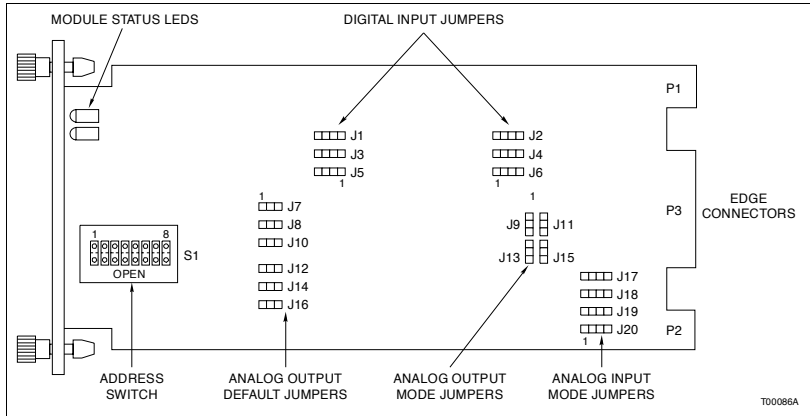
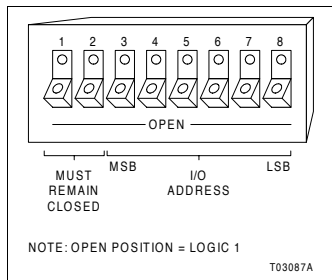

Figure 3-1. Module Layout
Figure 3-2. Address Switch S1 Settings
The address is set by the eight position address dipswitch (S1) shown in Figure 3-1. The six right switch positions (three through eight) of S1 set the six-bit address. Positions one and two are not used and must remain in the closed position (Fig. 3-2). Table 3-1 shows an example of a binary address setting for S1.
Refer to Figure 3-1 for location of the jumpers and Table 3-2 for jumper settings.
The analog output mode jumpers select the mode of each analog output. The mode can be set to current (4 to 20 milliamperes) or voltage (1 to 5 VDC). Refer to Figure 3-1 for location of jumpers and Table 3-3 for jumper settings.
2. At the termination unit, use the dipshunt configuration for differential voltage mode. Refer to Appendix A. Set the analog input jumpers (J17, J18, J19, and J20) on the module to the proper analog input desired. Refer to Table 3-4 for jumper settings. Refer to Figure 3-1 for location of jumpers.
The input configure on DC mode has a fixed propagation speed (17 millisecond response time). The I/O module requires jumper settings for both the working voltage and the correct DC or AC mode selections. Refer to Figure 3-1 for location of jumpers and Table 3-5 to determine the jumper settings. Position a jumper across the pins shown in the table.